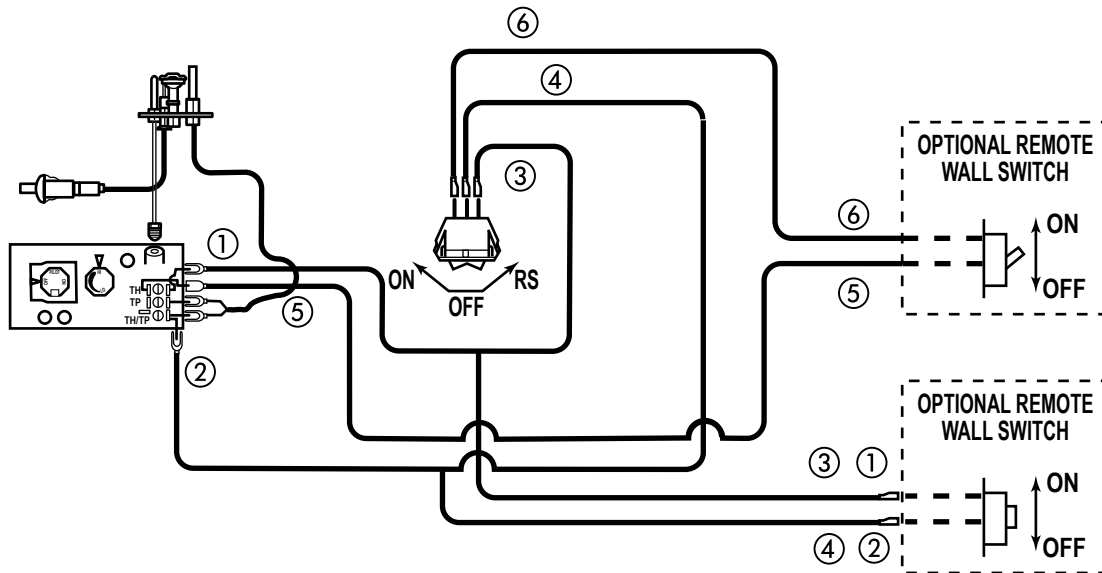

Figure 38 -
A remote wall switch and up to fifteen (15) feet of 18 Ga. wire may be used with this appliance. Attach the wall switch in a junction box at the desired location on the wall. *Figure 38*. Do not extend beyond the wall switch wire length provided.